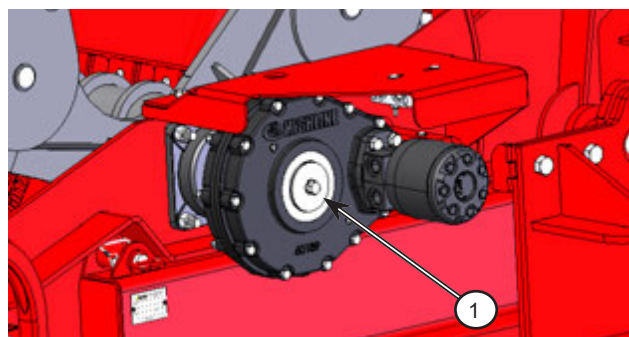

Figure 4.25: Check the gearbox oil
10. Check the oil level in the gearbox (1) and top up if required; see Figure 4.25.